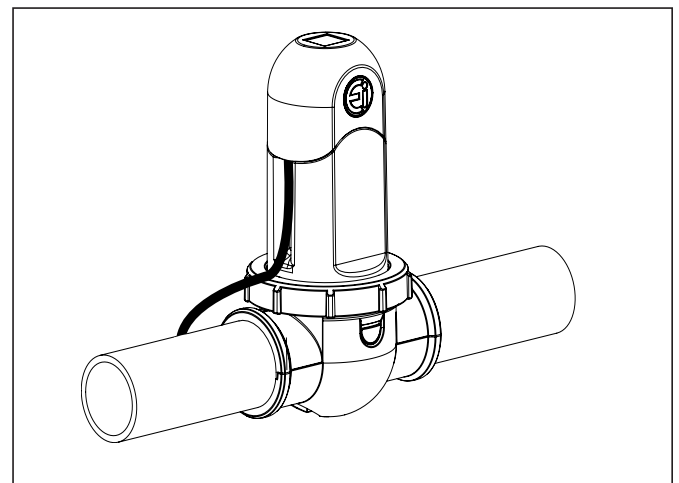

Figure 16. Attaching Terminal Cap
16. Attach the terminal cap (see Figure 16).